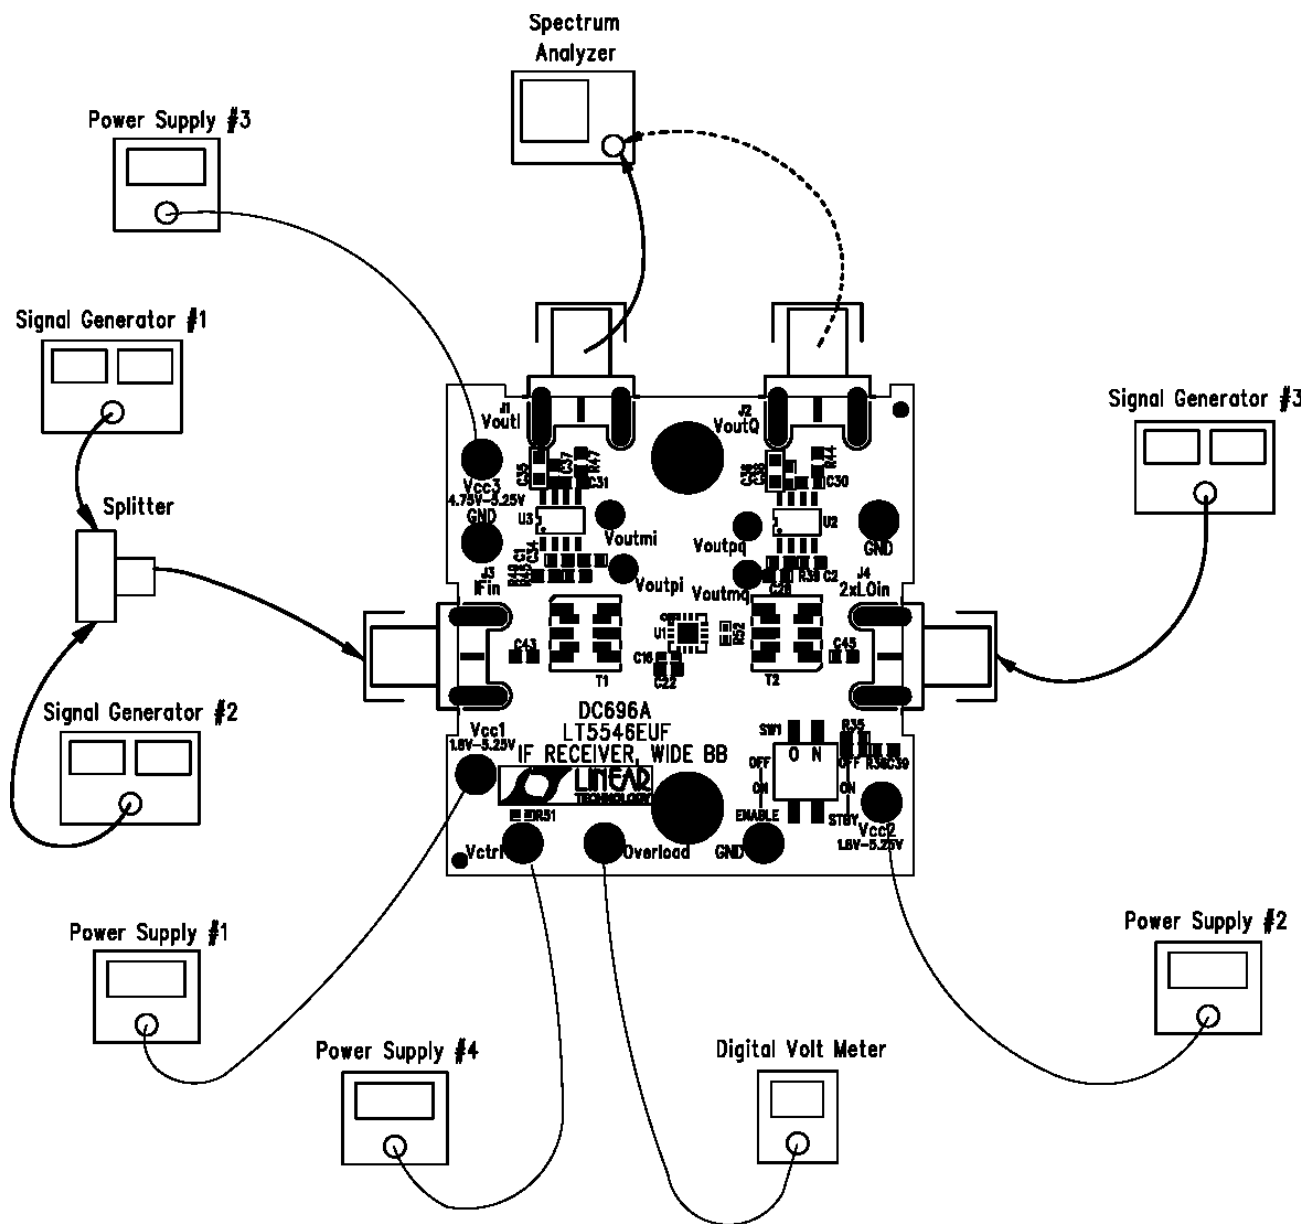

Figure 1. Test and Measurement Setup
- 1) Connect test equipment and power supplies to the demo board as shown in Figure 1.